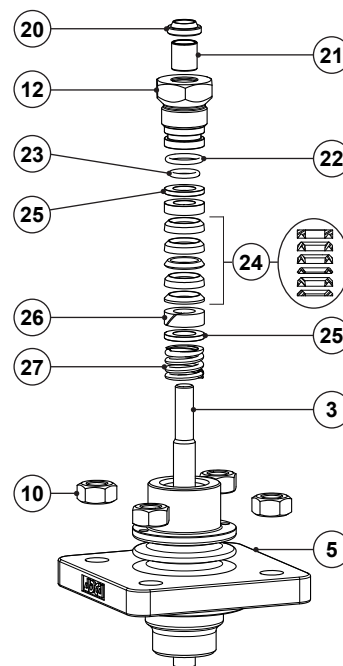

Fig. 9 - PTFE V-Rings
1. Unscrew the lock nut (13) from the stem (7).
2. Unscrew the gland nut (12) and remove it carefully together with the O-rings (22, 23).
3. Carefully pull the plug (3) with plug stem (7) out of the bonnet (5) through its bottom. Inspect the stem surface and plug sealing surface, replacing if necessary.
5. Clean the packing box and slide the stem (7) into the bonnet (5) once again.
6. Apply a suitable lubricant to all stem sealing components and stem (7).
7. Carefully slide the stem sealing components into the packing box according to Fig. 9.
8. Renew the scraper ring (20), plain bearing (21) and O-rings (22, 23) if necessary. Fit the O-rings (22, 23) and the gland nut (12), screwing it loosely.